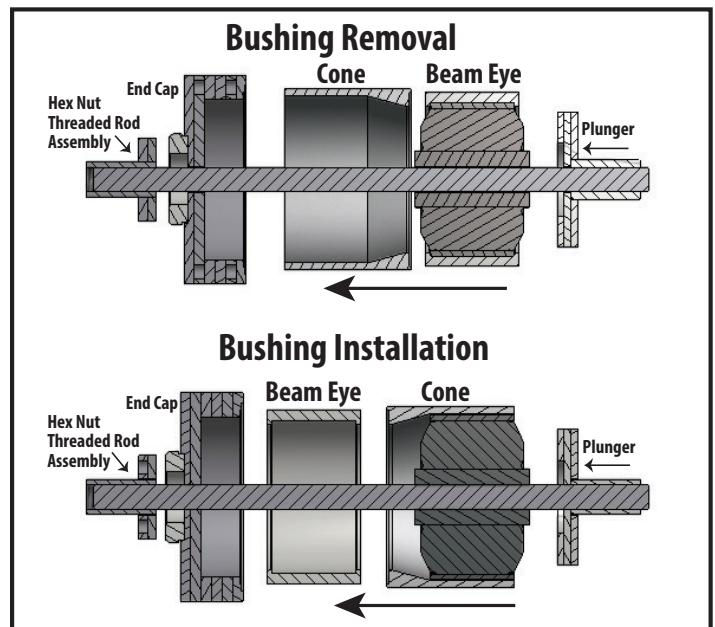

Figure 8.
2. Assemble the bushing replacement tool and place on the eye of the beam (Figure 8). NOTE: Cone is tapered inside to a smaller opening on one end.
4. Assemble the bushing replacement tool and place on the eye of the beam (Figure 8).